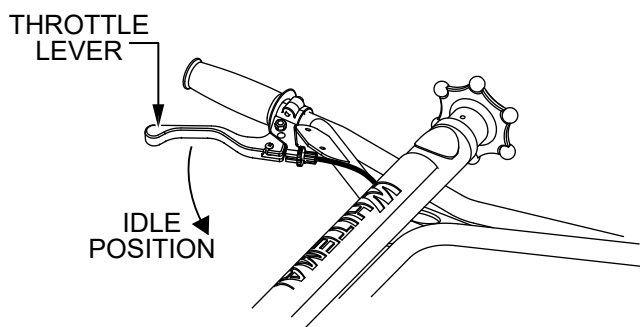

Figure 21. Throttle Lever (Idle)
2. Place the throttle lever in the **IDLE** position (Figure 21).